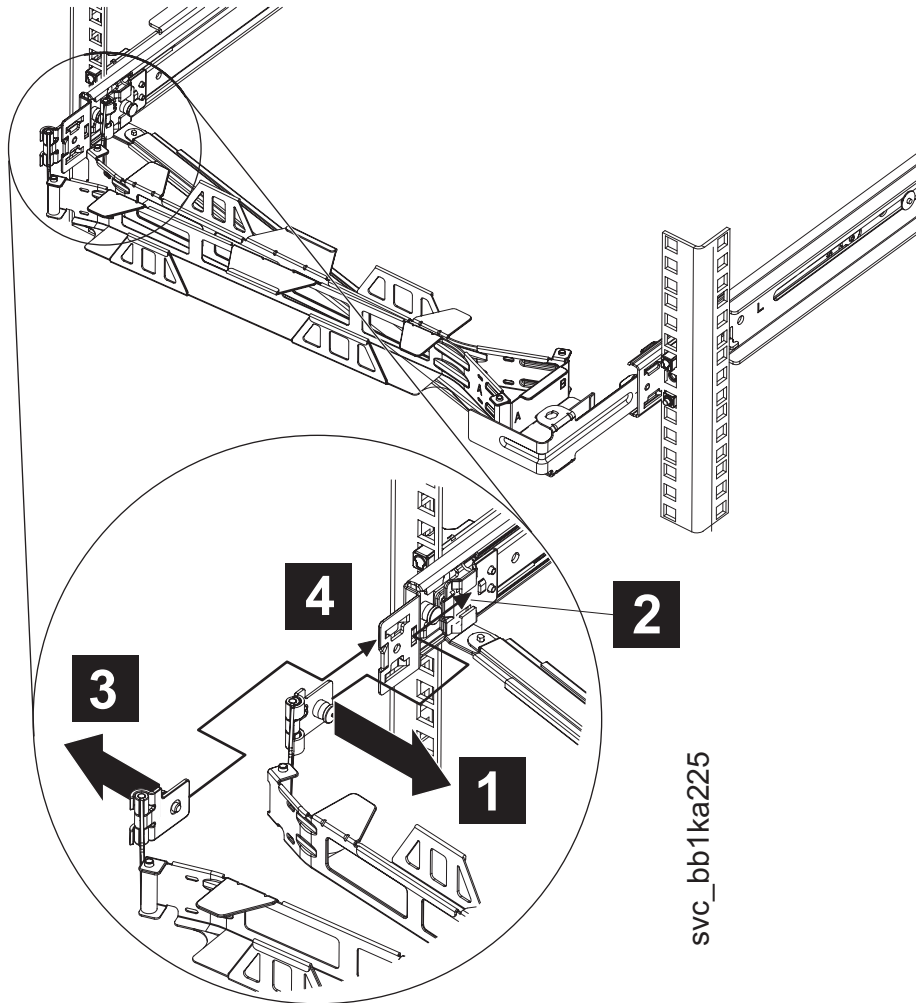

Figure 11. SAN Volume Controller 2145-CF8 cable-management arm on the support arm
- a. Pull out the cable-management arm pin, as shown by **3** in Figure 11 on page 23, then slide the cable-management arm tab out of the slot **4** on the outside of the slide rail.